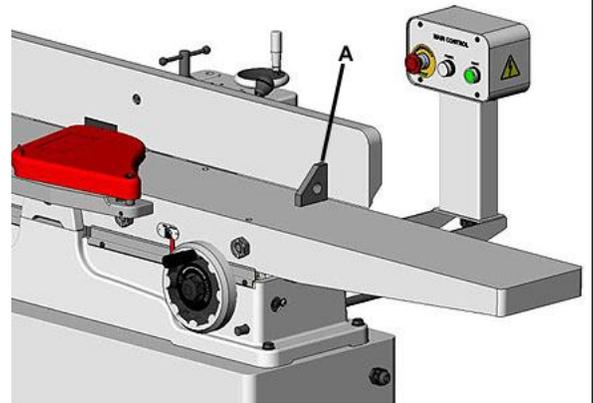

Fig. 16
5. Place an angle measuring device on the table and against the fence to confirm a 90° setting (A) Fig. 16.
6. If the fence is not square to the table, release the lock handle (J), loosen the hex nut (F), and turn the stop bolt (E) until the fence is square to the table.
7. Tighten the lock nut (F) to retain the setting.
8. Tighten the lock handle (J).